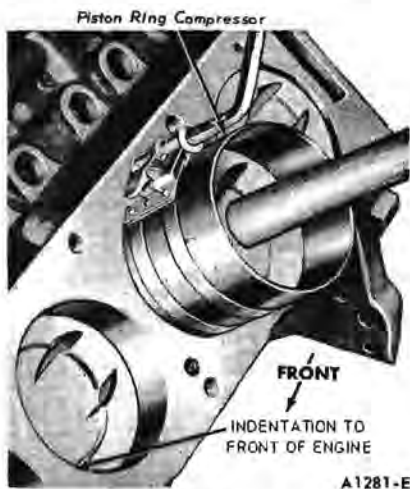

FIG. 43—Piston Installation
4. Install a piston ring compressor on the piston and push the piston in with a hammer handle until it is slightly below the top of the cylinder (Fig. 43). Be sure to guide the connecting rods to avoid damaging the crankshaft journals. Install the piston with the indentation in the piston head toward the front of the engine.